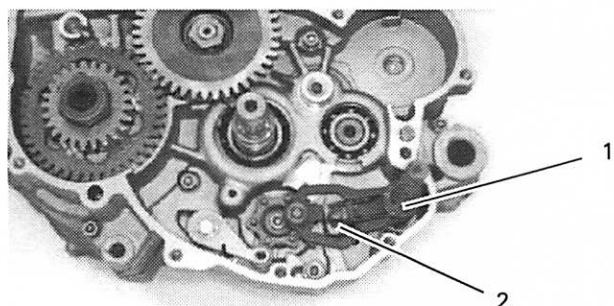

Figure 105
7. Install the shift shaft (1, Figure 105) with its washers and shims (if used). Center the shift shaft spring (2, Figure 105) around the crankcase pin.